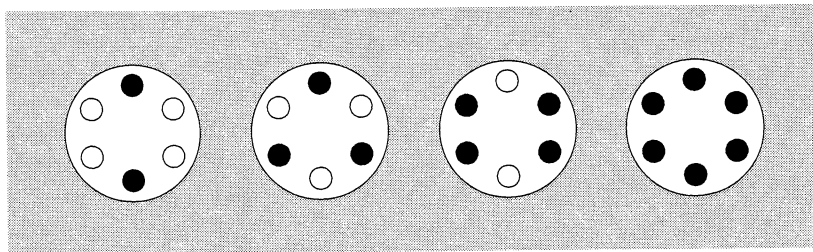

Figure 1. Arranging Tubes or Bottles in the Rotor.
2. Load the filled containers symmetrically into the rotor. (Refer to TUBES AND BOTTLES on page 6 for information about containers.) If fewer than six tubes are being run, they must be arranged symmetrically in the rotor (see Figure 1). Opposing tubes must be filled to the same level with liquid of the same density (within 10 grams).